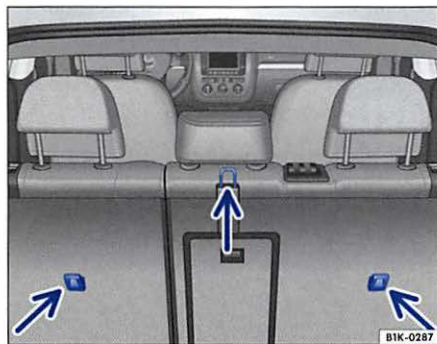

Fig. 34 Tether anchors for the rear seating positions on the backrest
- Improper use of child restraint anchors (tether anchors) ⇒ fig. 34 -arrows- can lead to injury in a collision. The anchors are designed to withstand only those loads imposed by correctly fitted child restraints.